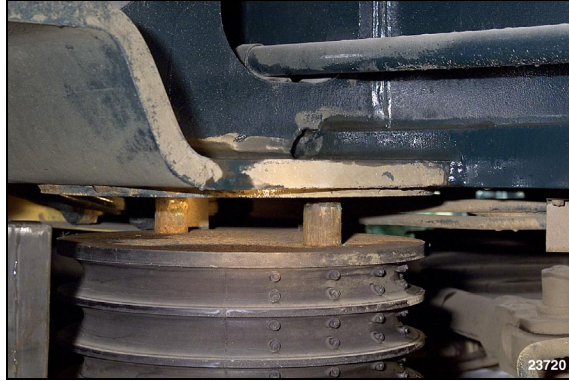

Figure 29 – Secondary Spring / Underframe Separation
9. Ensure all physical connections between carbody and bogie are removed or disconnected. Lift carbody or lower bogie, ensuring separation of secondary springs from carbody, Figure 29.